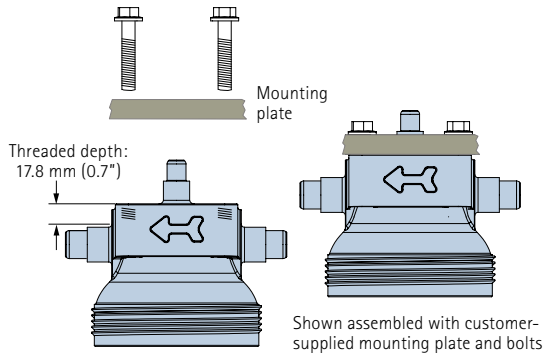

Figure 4.
1. The Chemlock PP housing head has four M12 × 1.75 threaded holes for mounting (Figure 4). Determine the length and type of bolts to secure the housing head to your equipment or facility mounting bracket. Bolts are not provided.